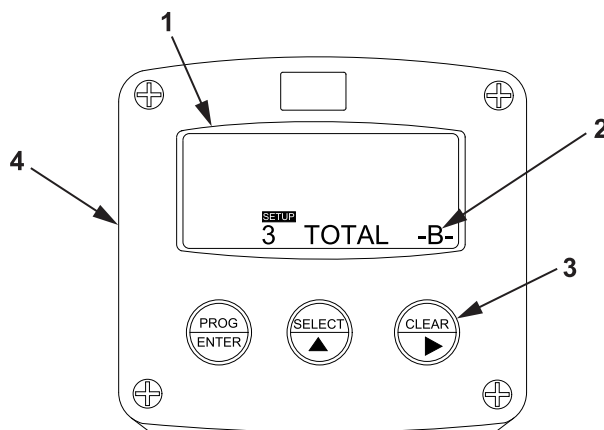

Figure 21. TOTAL B Display.
- f. Verify that TOTAL B (Figure 21, Item 2) appears on the display screen (Figure 21, Item 1).
- g. Press the CLEAR key (Figure 21, Item 3) on the tank volume meter monitor (Figure 21, Item 4).